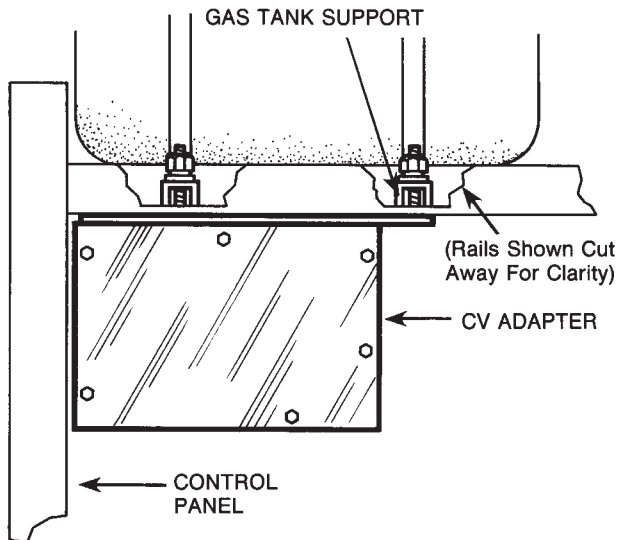

FIGURE 1 – CV Adapter Mounting.
2. Mount CV Adapter (nameplate should have an "SA" above the code number) to the gas tank support holes. Use one 3/8" bolt with hardware removed in Step 1 and one stud on Adapter. One 3/8" bolt will not be used as a 3/8" stud from the Adapter case replaces it. In mounting the unit, be sure the fuel line and choke cable are not pinched. (See Figure 1.)